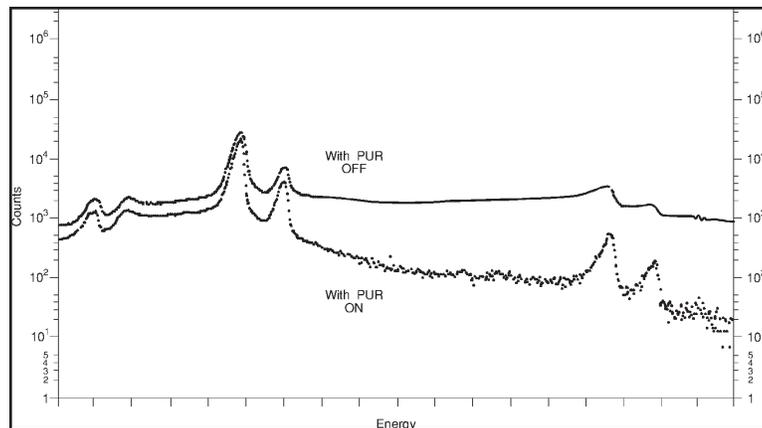

Figure 43 Comparing  $^{57}\text{Co}$  Spectra with PUR On and Off
10. Compare the two spectra, LTC On and LTC Off, overlapping them with the compare function, as seen in Figure 43.